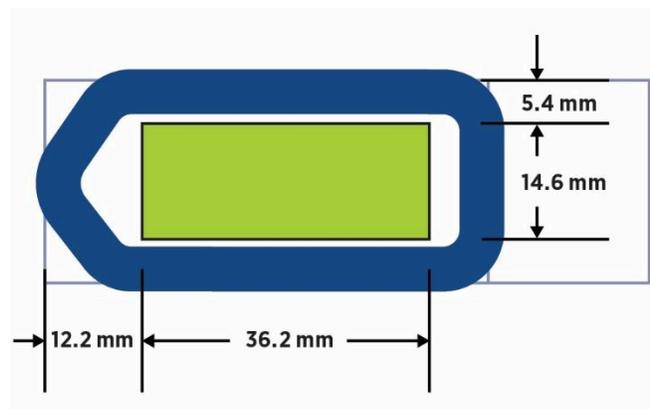

Figure 4: Tissue area boundary on slide
- If your slides are not detected by the instrument, check that there is no tissue extending beyond the allowable tissue area (see green area in Figure 4). Scrape parts of the tissue with a clean blade if necessary.